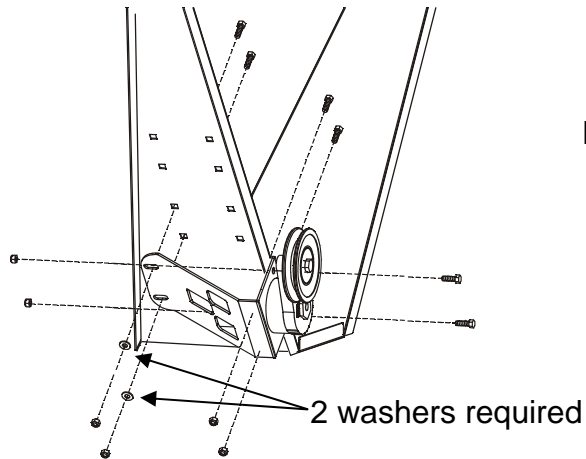

Figure 2 – Install Belt Tensioner
4. Attach the Belt Tensioner as shown in **Figure 2** using 6 cap screws, 2 flat washers, and 6 lock nuts as specified in the parts list above. Note the location of the two flat washers for the mounting of the Tensioner.